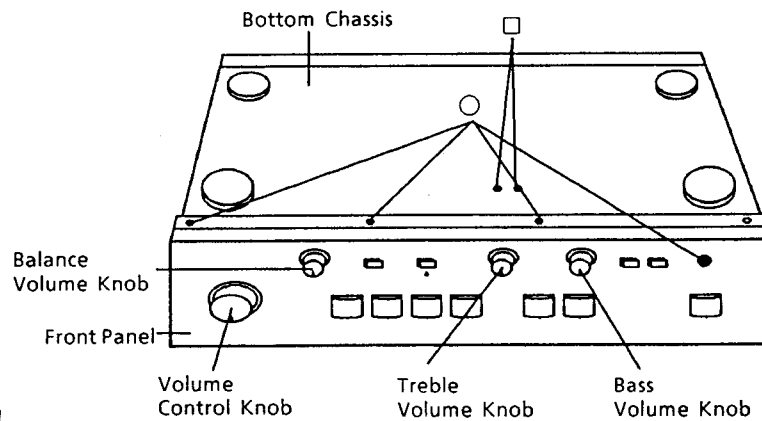

Figure 2
- (2) Remove fourteen screws marked "○" as shown in Figures 2 and 3.
- (3) Front Panel with Function P.C.Board and LED P.C.Board can be removed completely.
- (2) Remove thirteen screws marked "□" as shown in Figures 2, 3 and 4.
- (3) Disconnect all wires from the Main P.C.Board.